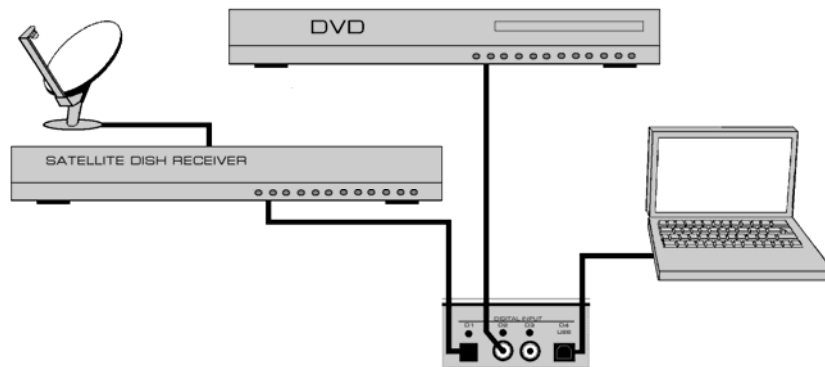

Figure 2: MOON 350P Optional Digital Inputs – connection examples
There are two (2) different settings available for setting the resistive load; 100 Ω and 47k Ω which are represented by jumper sockets R9 for the left channel and jumper socket R24 for the right channel (refer to figure 2 – section labeled "LOADING"). The factory default setting is 47k Ω , therefore both jumpers will be found in each of the two left most sockets.
There are two (2) different settings available for the capacitive load; 0pF and 100pF which are represented by jumper sockets C9 for the left channel and jumper sockets C17 for the right channel (refer to figure 2 – section labeled "LOADING"). The factory default setting is 100pF for a moving magnet cartridge, therefore both jumpers will be found in each of the two right most sockets.
There are two (2) different settings available for gain level. They are 40dB for MM cartridges and 60dB for MC cartridges, which are represented by jumper socket J17 for the left channel and jumper socket J22 for the right channel (refer to figure 2 – section labeled "GAIN"). The factory default setting is for a MM cartridge, therefore both jumpers will be found in each of the two right most sockets labeled MM; ***It is highly recommended that you do not use the jumpers labeled MC for an MM cartridge as this will overload the preamplifier.*** In the event that you're using a MC cartridge, you should insert the supplied jumpers into each of the two left-most sockets labeled MC.